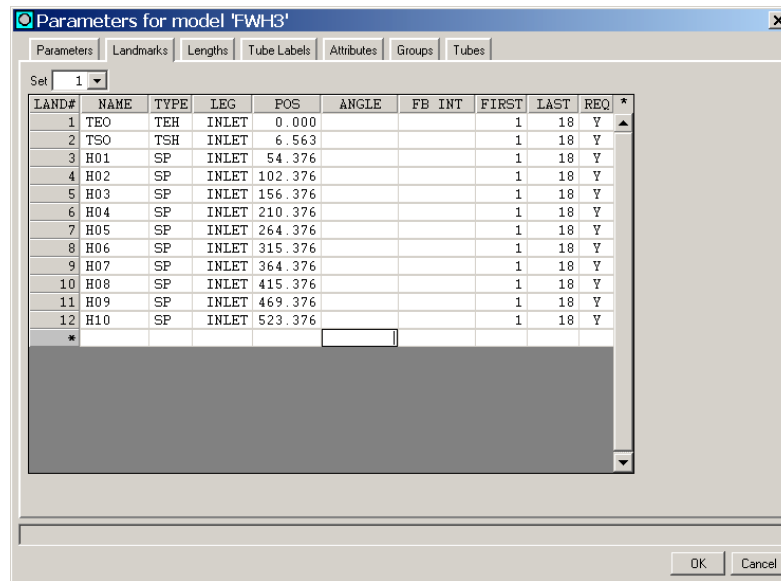

Figure 8-3. Parameters dialog - Landmarks Tab Showing Landmark Set 1
- STEP 4:** When you have finished, the *Landmarks* tab of the *Parameters* dialog should look like the one shown in Figure 8-3. Click **OK** on the *Parameters* dialog.